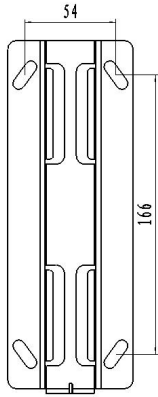

Fig.1
3. Take the mounting bracket as a template to mark the position for screws and drill four holes on the wall. Fig.1